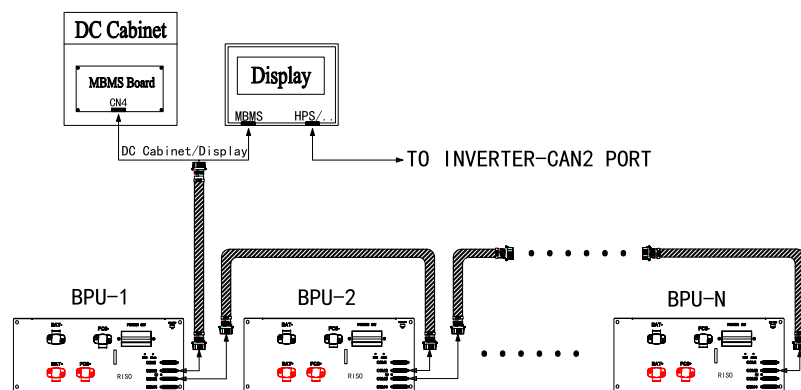

Figure-20 Schematic diagram of the BPU wiring for reference
1) Take out the matching battery module communication line as shown in Figure-20 and separate the communication line according to the battery module communication line label.